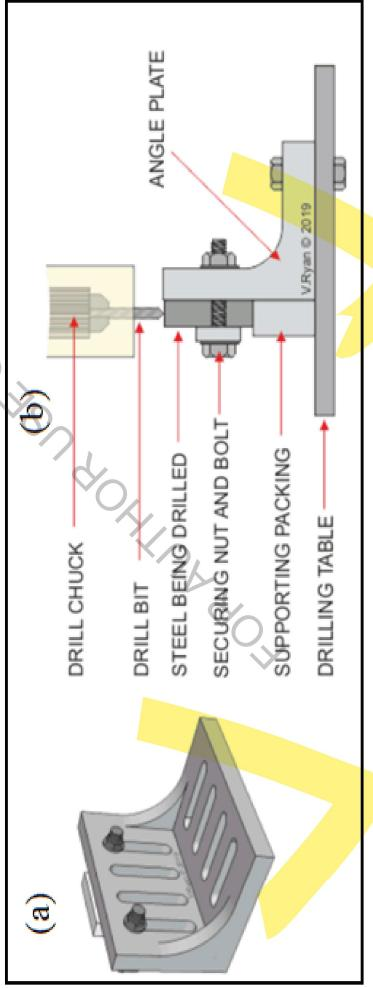

Figure 2.15: (a) Angle Plate, and **(b)** its use
2.2.3.4 Angle Plate :An angle plate (Figure 2.15 (a) and (b)) is a right-angle plate with holes and slots. It is used for supporting the workpiece vertically on the wall of angle plate with bolts through holes and slots. It is made up of cast iron with high degree of accuracy.